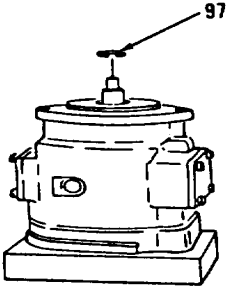

Figure 10-34.
- 47. Install retaining ring (97, Figure 10-34).